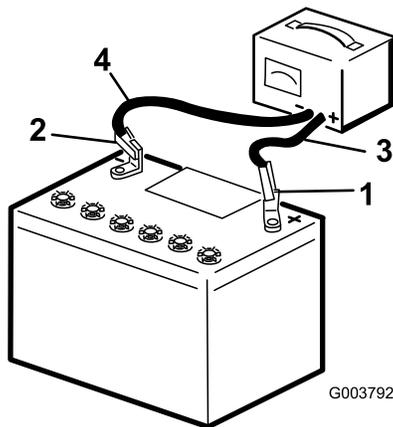

Figure 37
3. Charge the battery for 10 to 15 minutes at 25 to 30 amps or 30 minutes at 4 to 6 amps (Figure 37). Do not overcharge the battery.
4. When the battery is fully charged, unplug the charger from the electrical outlet, then disconnect the charger leads from the battery posts (Figure 37).